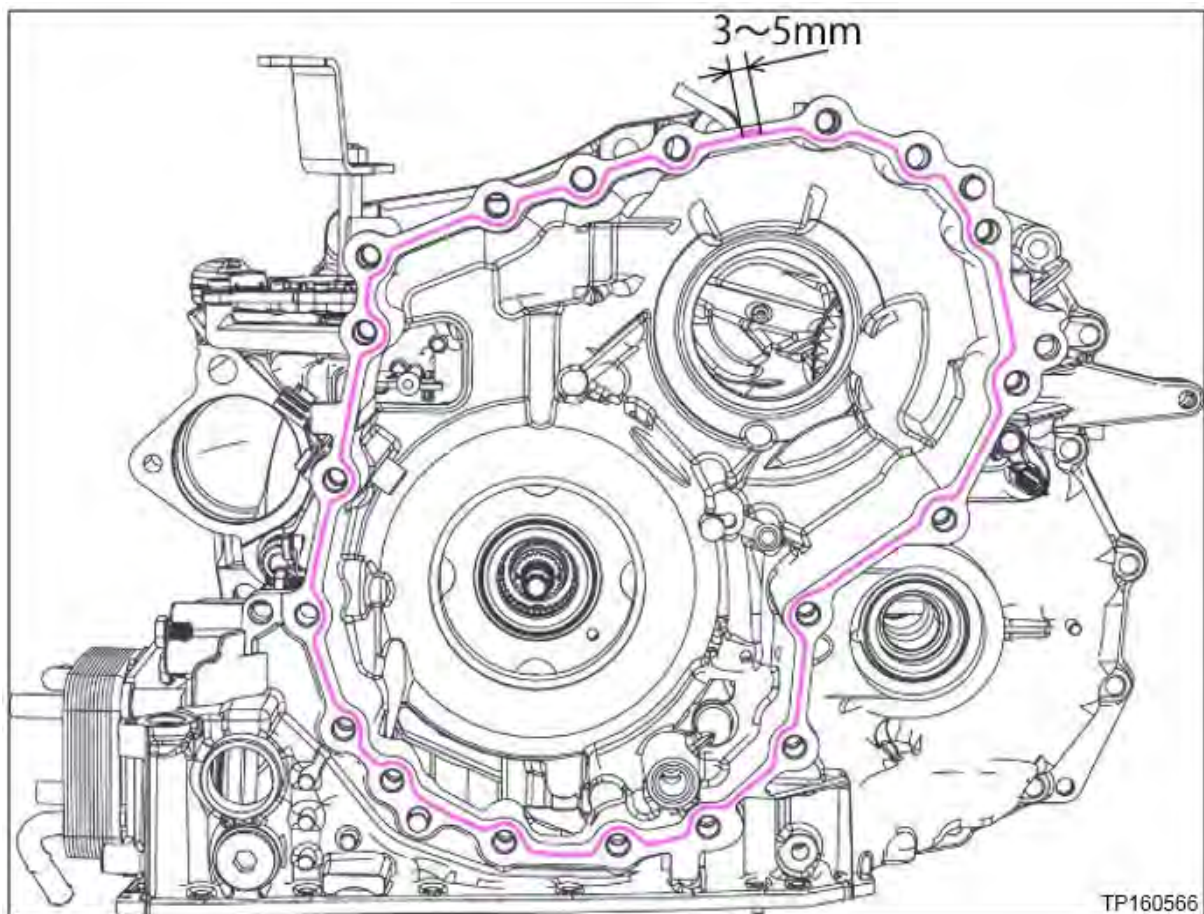

Figure 90
70. Apply one continuous 2.0 mm diameter bead of sealant along the center of the CVT case side mating surface (Figure 90).